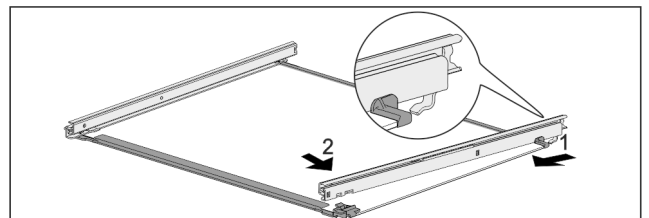

Fig. 105 Glass shelf with rails
- ▶ Hook in rail at the back. Fig. 105 (1)
- ▶ Hook in rail at the front. Fig. 105 (2)